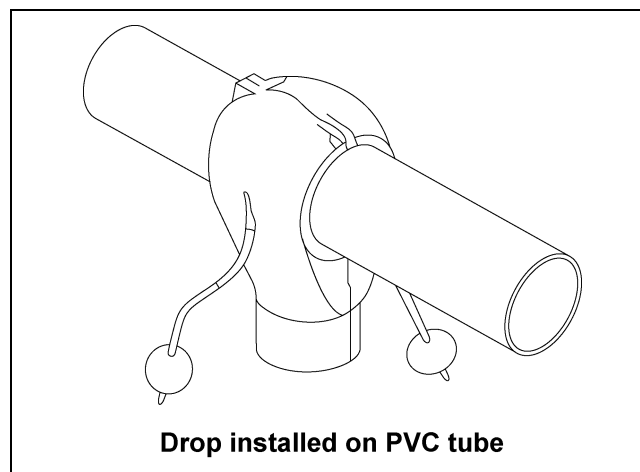

Figure 5N
4. Position the drop halves around the rotary slide and attach both halves together with the hardware provided as shown in Figure 5N.
9. Two (2) screws are supplied for attaching an optional drop tube. *(See Figure 5N on Page 22.)* Use both screws to attach the drop tube securely to the drop kit.